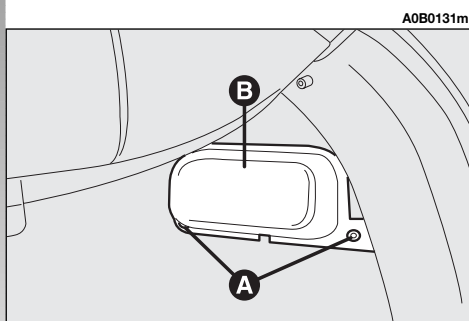

fig. 51
- Slacken the two fastening nuts (**A-fig. 51**) and remove the protective cover (**B-fig. 51**).
- Refit the protective cover (**B-fig. 51**) fastening with nuts (**A-fig. 51**).